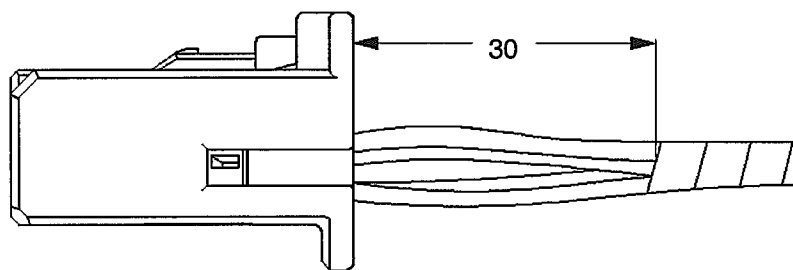

Fig.14
- (3) Insert the proper female housing straight into the male housing with the direction shown on Fig.14. If the operation is finished, you can hear the click sound and can't insert further. Don't apply excess force, if you can't insert into the male housing, and check the items of (1) and (2).